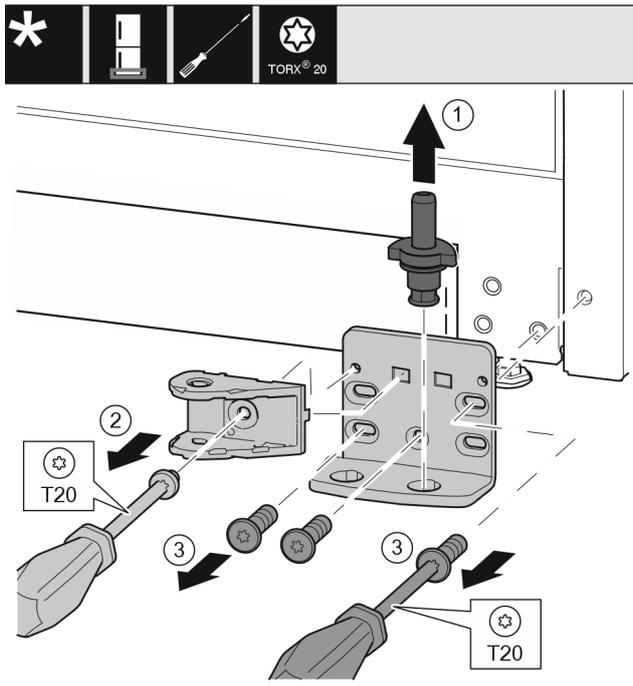

Fig. 23
- ▶ Pull the bearing bolt out upwards completely. Fig. 23 (1)
- ▶ Use screwdriver T20 to unscrew the screw and remove the closing damper connection. Fig. 23 (2)
- ▶ Use screwdriver T20 to unscrew the screws and remove the swap bearing block. Fig. 23 (3)